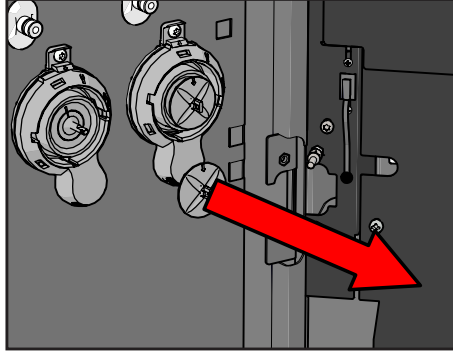

Figure 46.
12. Remove the mixer blade from the motor shaft (see Figure 46).